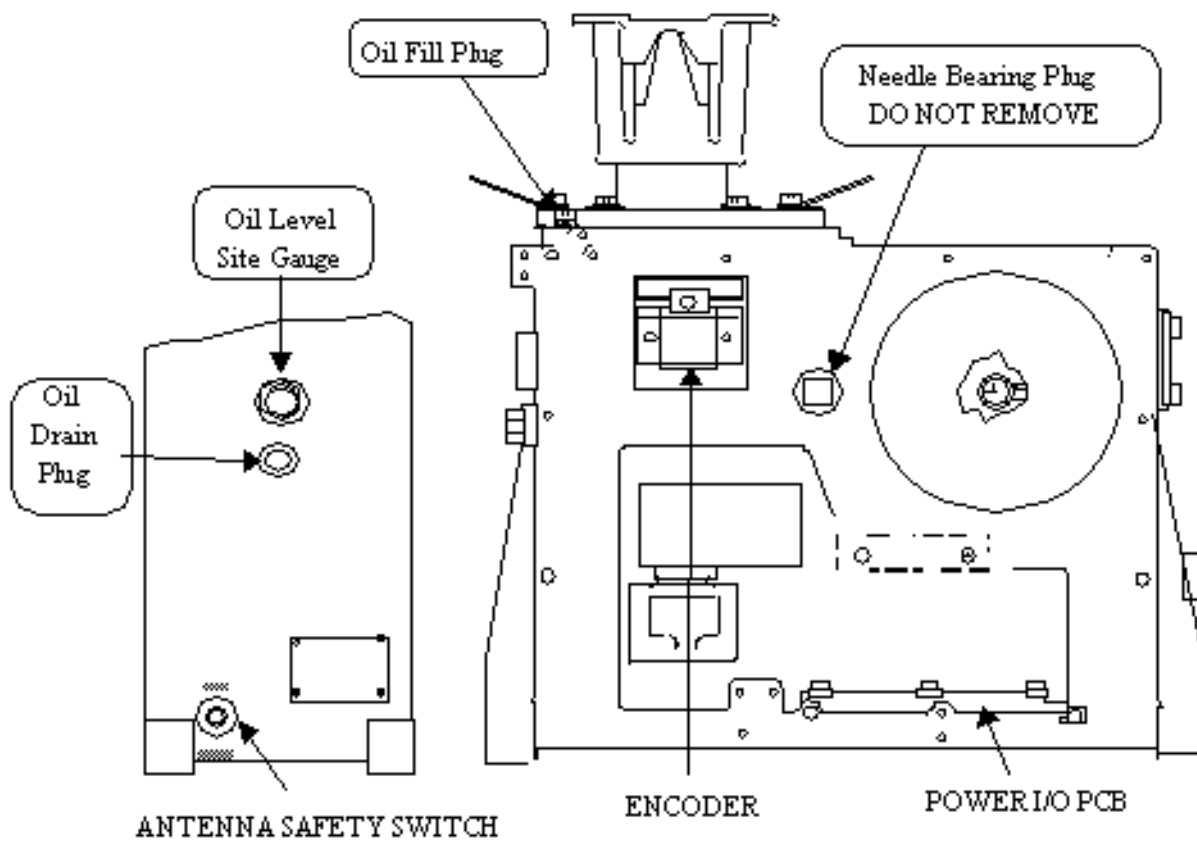

Figure: 5-2 S-Band Oil Check
- (1) Remove power from MTR Up and place Antenna Safety Switch to OFF.
- (2) Check the gear box assembly lubricant level using the oil level sight gage, Figure: 5-2. The oil level should be seen 1/2 way up the oil sight gage. Gear box assembly lubricant capacity is 2.11 quarts, (2000 ML). Use Mobile synthetic oil.